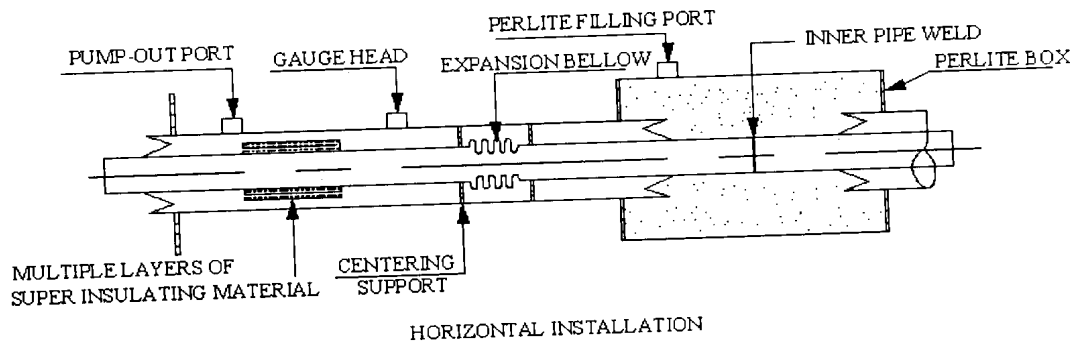

Figure-1 - Super Insulated Pipe
- 1.2.2 Super Insulated (SI) pipes are double walled stainless steel pipes. Inner pipe is wrapped with multiple layers of super insulating material. The annular space between inner and outer pipe is kept under very high vacuum (usually limited to 4 Pascal). Sometimes it is also referred as 'Vacuum Insulated Pipe' or 'Vacuum Jacketed Pipe'. Joint between two super insulated pipe sections is insulated by expanded Perlite, Poly Urethane Foam (PUF) or any Super Insulation material. A Super Insulated pipe section along with its various components and perlite insulated joint on the right side is shown in **Figure-1**.